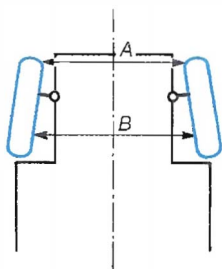

Figure 17.2 • $A < B$: pincement.
- si $A < B$, il y a pincement (figure 17.2) ;